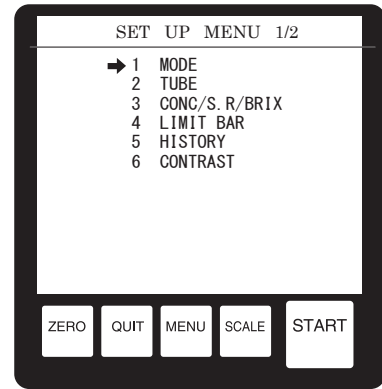

Fig.17-1
(1) Setting the limit bar
- c) The screen shown in Fig.17-1 will be displayed on the display panel. Select a sample number between 01 and 30 for the sample number, and then press the ← key.